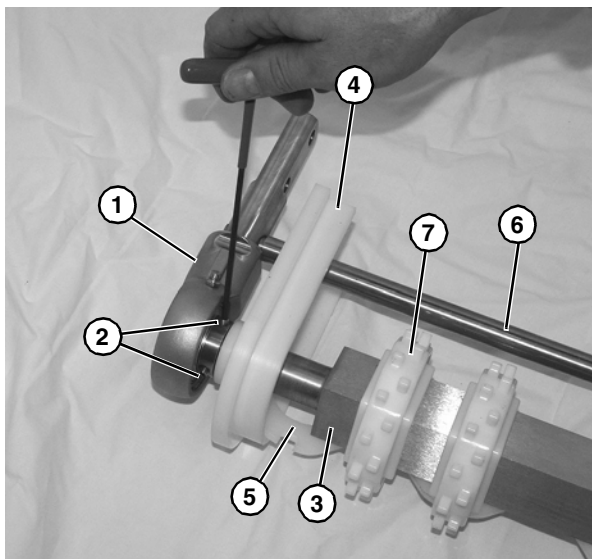

Figure 59
9. Remove the bearing cover from bearing shaft assembly (**Figure 59, item 1**).
10. Use a hex wrench to loosen two set screws (**Figure 59, item 2**) on the bearing shaft assembly (**Figure 59, item 1**).
11. Slide the bearing shaft assembly off of the drive spindle (**Figure 59, item 3**). Slide bearing shaft assembly off the drive spindle on opposite side.
12. Remove pinch guard (**Figure 59, item 4**) on each side.
13. Remove sprocket alignment bar (**Figure 59, item 5**), and pinch guard shaft (**Figure 59, item 6**).
14. Remove the sprockets (**Figure 59, item 7**).